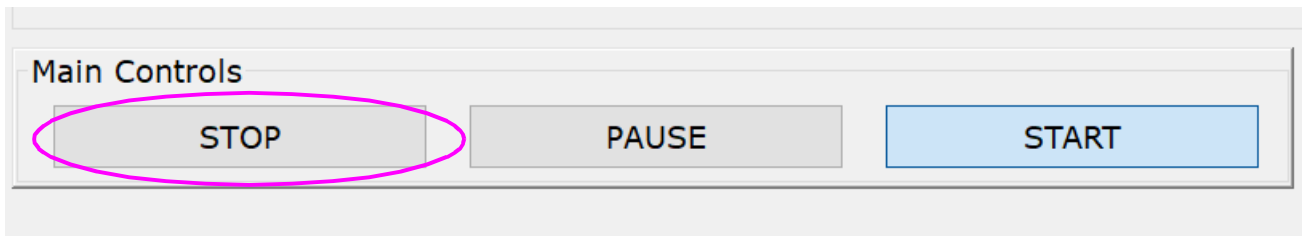

Figure 4-41: OPEX Host Run Screen - STOP Button
1. When finished, on the OPEX Host screen, click **STOP** (see Figure 4-41). This stops the conveyors and homes the iBOTs.